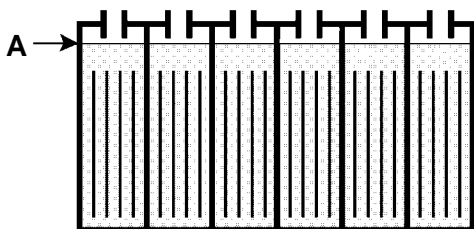

FIG. 24
2. After charging, check fluid level (A). Fluid level should be within 3 mm (0.13 in) of full level indicator. Add distilled water if needed. **DO NOT OVERFILL.** Overfilled batteries can overflow during charging due to fluid expansion (Figure 24).